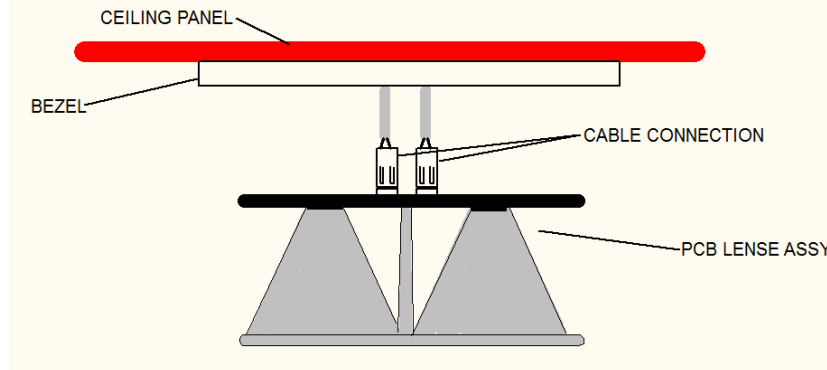

Figure 11 - LED assembly replacement
- Drop assembly down as shown in Figure 11 - LED assembly replacement.